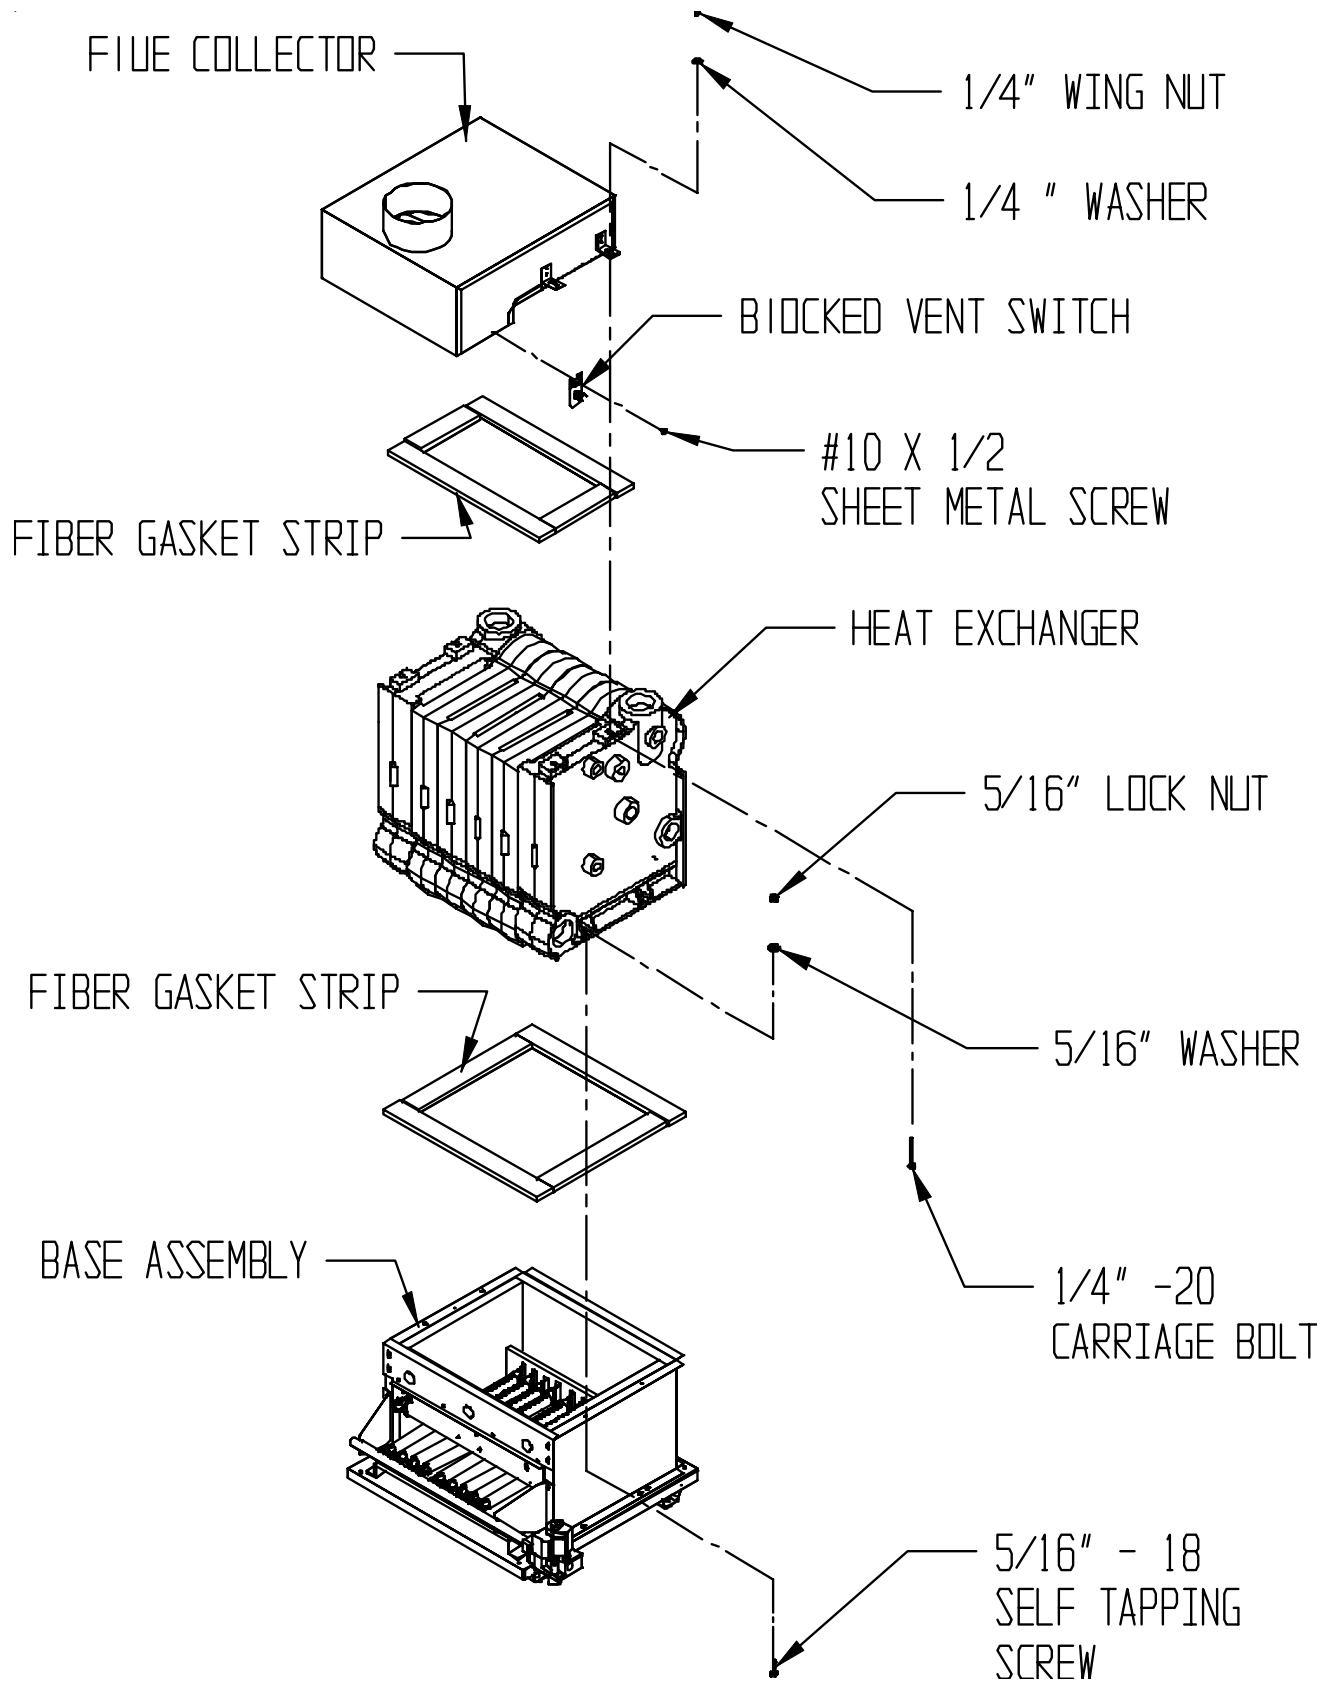

FIGURE A1: BASE, HEAT EXCHANGER, FLUE COLLECTOR ASSEMBLY
- 3) Install the fiber gasket strip, which was shipped in the "Base Box" (Figure A1).
- 1) Position the heat exchanger above the base with the return connection located toward the front of the boiler and the lugs, located on each end of the boiler, centered over the studs, which are on each end of the base (Figure A1). Lower the heat exchanger over the studs, taking care not to disturb the studs which may push out if the heat exchanger comes in contact with them. Also, take care not to disturb the ceramic fiber gasket.
- 5) Fiber gasket strips are used to seal the flue collector to the heat exchanger (this is the same material used between the heat exchanger and base). Install this gasketing on the top of the heat exchanger (Figure A1). A few dabs of silicone may be used to keep this gasketing from shifting when the flue collector is installed.
- 6) Install the flue collector as shown in Figure A1. Secure with the 1/4-20 carriage bolt, nuts, and washers provided.
- 8) Install the blocked vent switch using the #8 sheet metal screw provided as shown in Figure A1